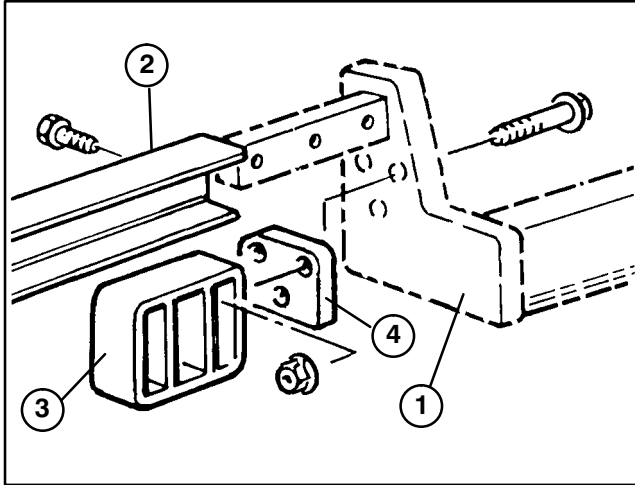

Figure 5
2. Mount a rear cradle to each lift arm with (3) 3/8-16 x 2" lg. capscrews, spacers and flangenuts as shown in figure 5.